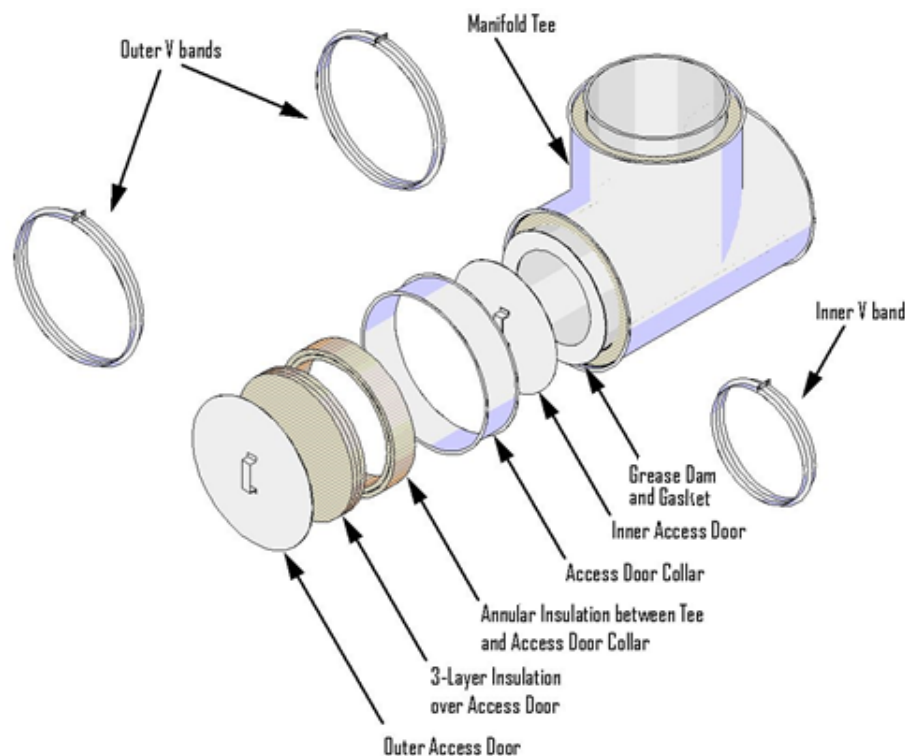

Figure 2. Access Door Assembly
- B. ACCESS DOOR – When required, use the duct manufacturer's manifold tee and access door (tee cap) assembly (see Figure 2). Apply a 1/4 in. continuous bead of sealant (Item 2A) to the inner flange of the tee on the side where access door is to be located. Center the supplied grease dam over the opening of the tee. Verify that grease dam is sealed to the tee flange by applying pressure. Remove excess sealant (Item 2A). Apply supplied Garlock Blue-Gard® 3000 gasket to grease dam with a 1/4 in. continuous bead of sealant (Item 2A) applied to the grease dam 1 in. from the outside edge. When